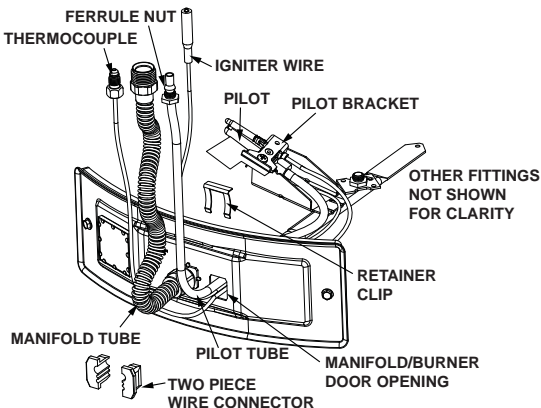

FIGURE 39.
6. Disconnect the white and red wires from the gas control valve/thermostat (Figure 39). Use needle nose pliers to grip the connector(s). **IMPORTANT:** Grip the connector carefully to prevent damage. Do not grip or pull the wires themselves.
6. Reconnect the manifold tube (3/4" SAE wrench) and pilot tube (7/16" SAE wrench) to the gas control valve/thermostat (Figure 39). Do not cross-thread or apply any thread sealant to the fittings.
7. Connect the white and red wires to the gas control valve/thermostat as shown in Figure 39.
8. Reconnect the igniter wire (Figure 39).